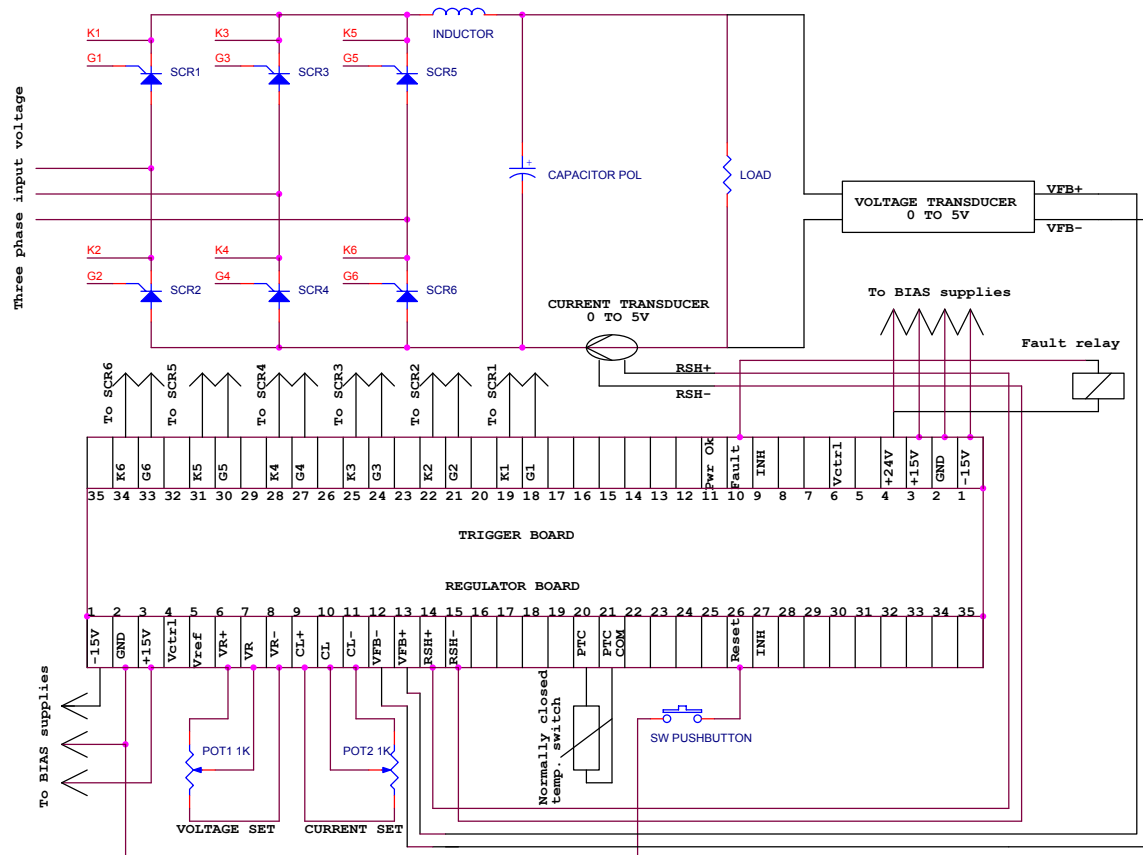

Figure 3 - Wiring diagram
The SCR controller system has two printed circuit boards: The first board is ALD03, the firing circuit board, the second one is ALR02, the regulator circuit board and both boards are connected through a ribbon cable. The two boards are conveniently placed inside a plastic box that can be mounted on a DIN-rail. A typical wiring diagram is depicted in Figure 3, at the end of this document. The two boards require ± 15 V and a +24 V (only for the firing circuit board) power supplies. The power supplies must be connected to all terminal blocks from Figure 3 that indicate the presence of ± 15 V or +24 V.
3. The next LED to the right is the FAULT LED (red). Whenever a fault occurs this and the front panel FAULT will be illuminated. Any time a fault occurs the RESET button must be depressed to clear the fault. A general FAULT signal is available at terminal 10 as shown in Figure 3. If any of the Pwr Ok (terminal 11) or STOP (terminal 12) pulled to the ground (terminal 2) the gate pulses are immediately inhibited and the red FAULT LED is lit.
6. The leftmost *yellow* LED is the OVERTEMP display. It is lit in the event of temperature exceeding design specifications. There is no adjustment. It will light for SCR, or transformer overheats. If a temperature sensor is not used as shown in Figure 3 then a jumper has to be made instead to allow the operation.
In the event of a fault (over-current, over-voltage, over-temperature or under-voltage) the SCR's are immediately shut-off and the fault is latched. The operation can resume after depressing the RESET push-button as shown in Figure 3.